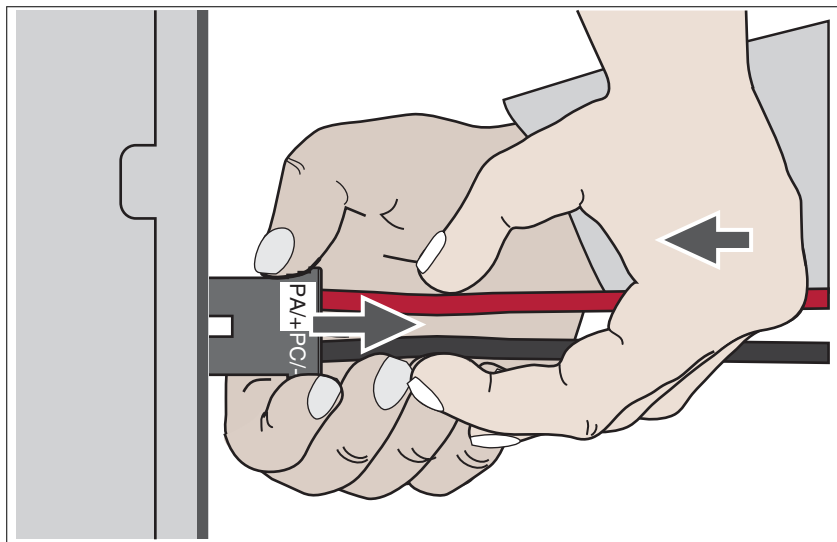

Figure 17: Unlocking the DC bus connector, step 2: Push cables towards connector, at the same time remove the connector with the other hand.
- ▶ While pushing the wires towards the connector, pull the connector at the connector housing with the other hand. The connector is unlocked and you can remove the DC bus connection cable (see ). The connector is unlocked and you can remove the DC bus connection cable (see Figure 17).